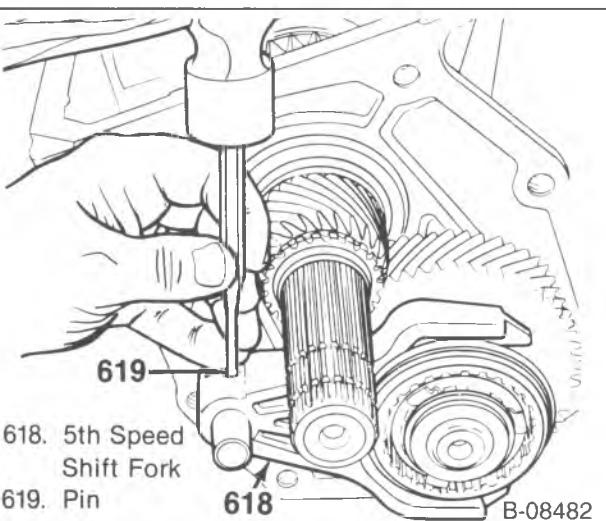

Figure 7—Removing the 5th Speed Shift Fork Pin
- 7. 5th speed drive gear (632) (5 speed only).
- Support the 5th speed shift fork (618) and drive the pin out, (figure 7).